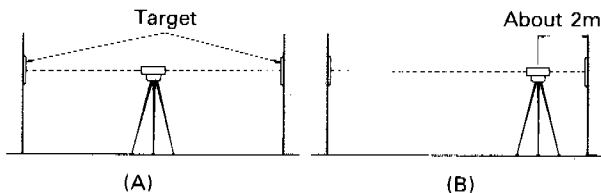

Fig. 18 Horizontal collimation
1. Prepare two identical target plates and set up the instrument in the middle between two walls at a distance of 50 to 100 meters. (Fig. 18)